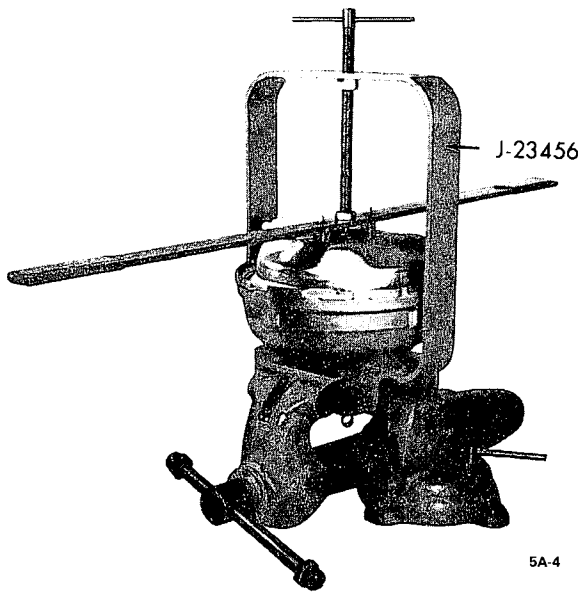

Figure 5A-4 Unlocking Front and Rear Housings
1. Lift the bead on the O.D. of the secondary diaphragm and remove the diaphragm support ring. See Figure 5A-5.